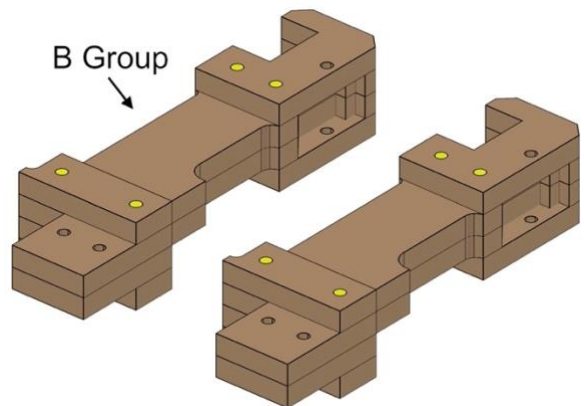

Fig. 8
- Fig. 8 shows the completed process (make two parts).